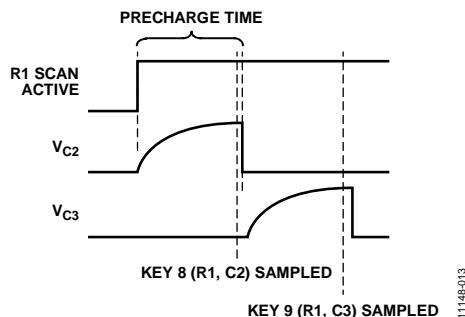

Figure 13. Precharge Time
During a scan sequence, a row scans through the columns sequentially. Each row/column combination is tested at a rate that is defined by the KEY\_POLL\_TIME bits (Register 0x39, Bits[1:0]). Within each of these scan times, each column is scanned for a time defined by the PRECHARGE\_TIME bit (Register 0x39, Bit 3). As shown in Figure 13, the resistance capacitance (RC) time constant, which is defined by the series resistance (from pull-up/pull-down, for example) and parallel capacitance that is seen on the individual columns, affects the sampling of a key press event.